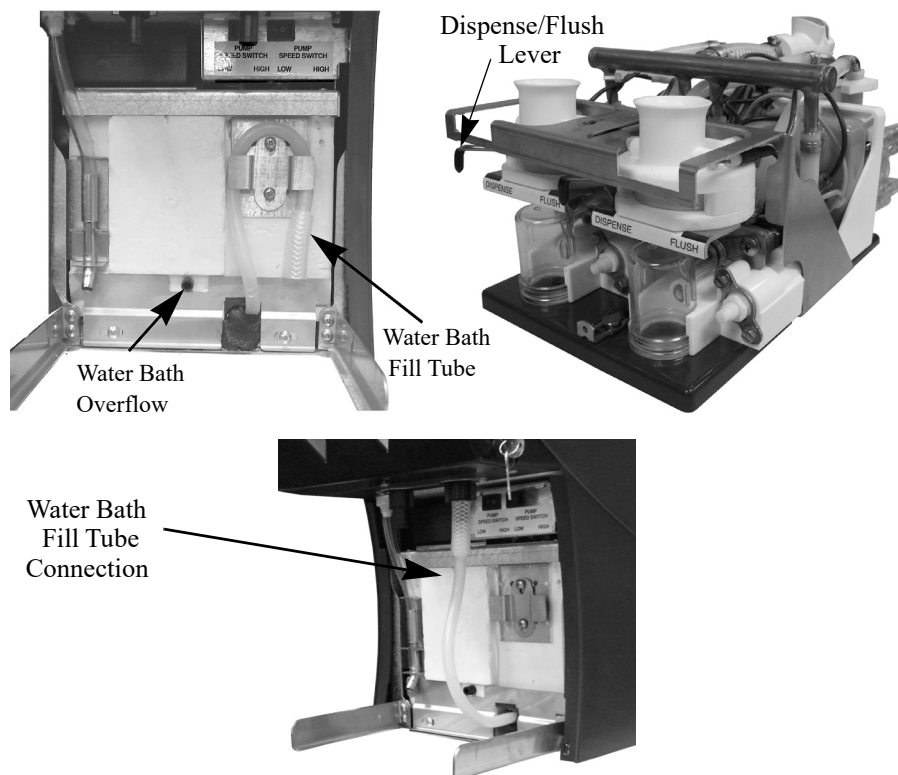

Figure 6. Water Bath and Dispense/Flush Lever
2. Open the door and verify that the flush/dispense lever is in the dispense mode. (see Figure 6) Ice bath must always be filled in the dispense mode.